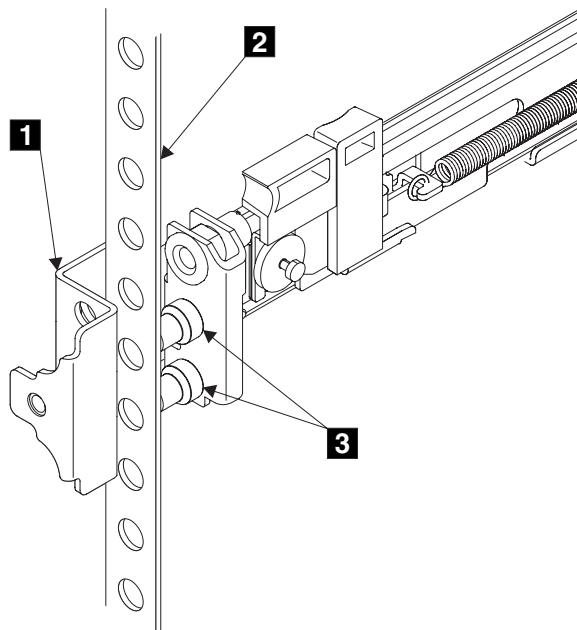

Figure 85. Installing the front end of the rail
6. Place the front end of the left rail in the rack cabinet. Align the top of the front bracket **1** (Figure 85) with the required EIA marking that is on the rack.